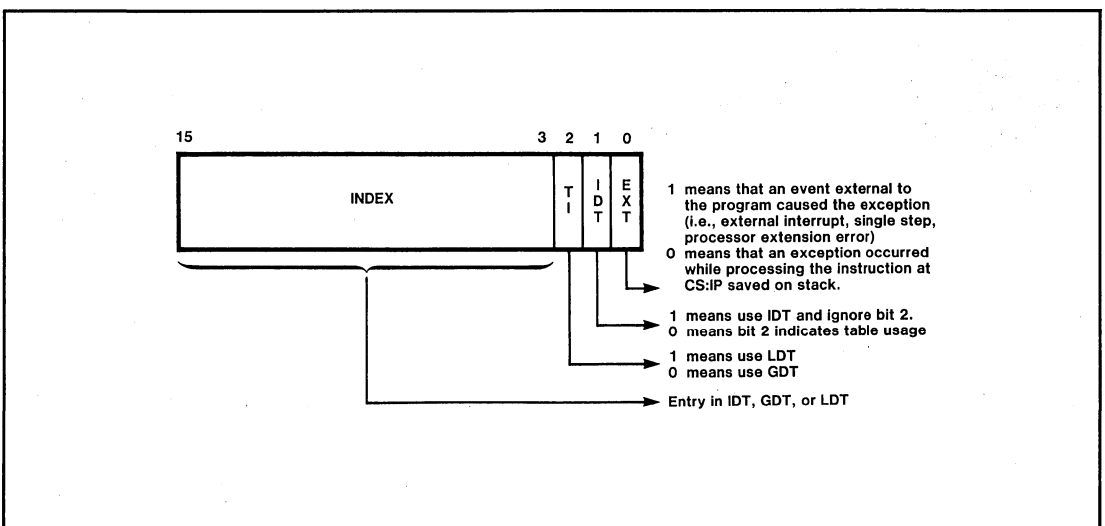

Figure 7-5. Error Code Format (on the Stack)
Any attempt by a program to load a segment register, local descriptor table register (LDTR), or task register (TR) with a selector that refers to a descriptor outside the corresponding limit causes an exception with an error code identifying the invalid selector used (see figure 7-5).
the bits in the access byte are checked to verify legitimate descriptor type and access (see table 7-2). If any test fails, an error code is pushed onto the stack identifying the selector involved (see figure 7-5 for the error code format).